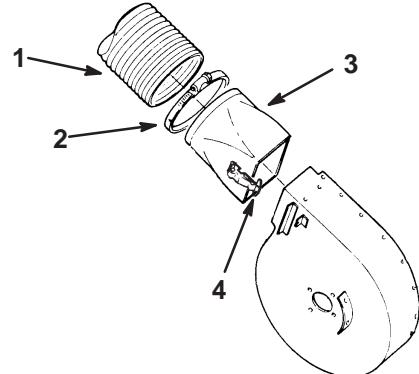

Figure 15
1. Assemble the hose onto the adaptor and secure with the clamp (Fig. 15).
2. Slide the adapter onto the blower assembly and secure with the latch handle (Fig. 15).